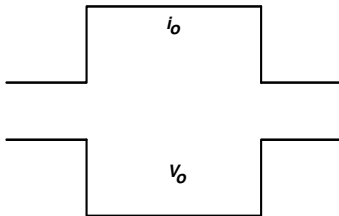
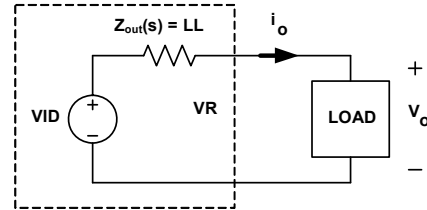

FIGURE 23. DESIRED LOAD TRANSIENT RESPONSE WAVEFORMS
FIGURE 29. VOLTAGE REGULATOR EQUIVALENT CIRCUIT
Assuming the compensator design is correct, Figure 23 shows the expected load transient response waveforms if  $C_n$  is correctly selected. When the load current  $i_{core}$  has a square change, the output voltage  $V_{core}$  also has a square response.
Figure 23 shows the desired load transient response waveforms. Figure 29 shows the equivalent circuit of a Voltage Regulator (VR) with the droop function. A VR is equivalent to a voltage source (= VID) and output impedance  $Z_{\text{out}}(s)$ . If  $Z_{\text{out}}(s)$  is equal to the load line slope LL, i.e., a constant output impedance, then in the entire frequency range,  $V_o$  will have a square response when  $i_o$  has a square change.